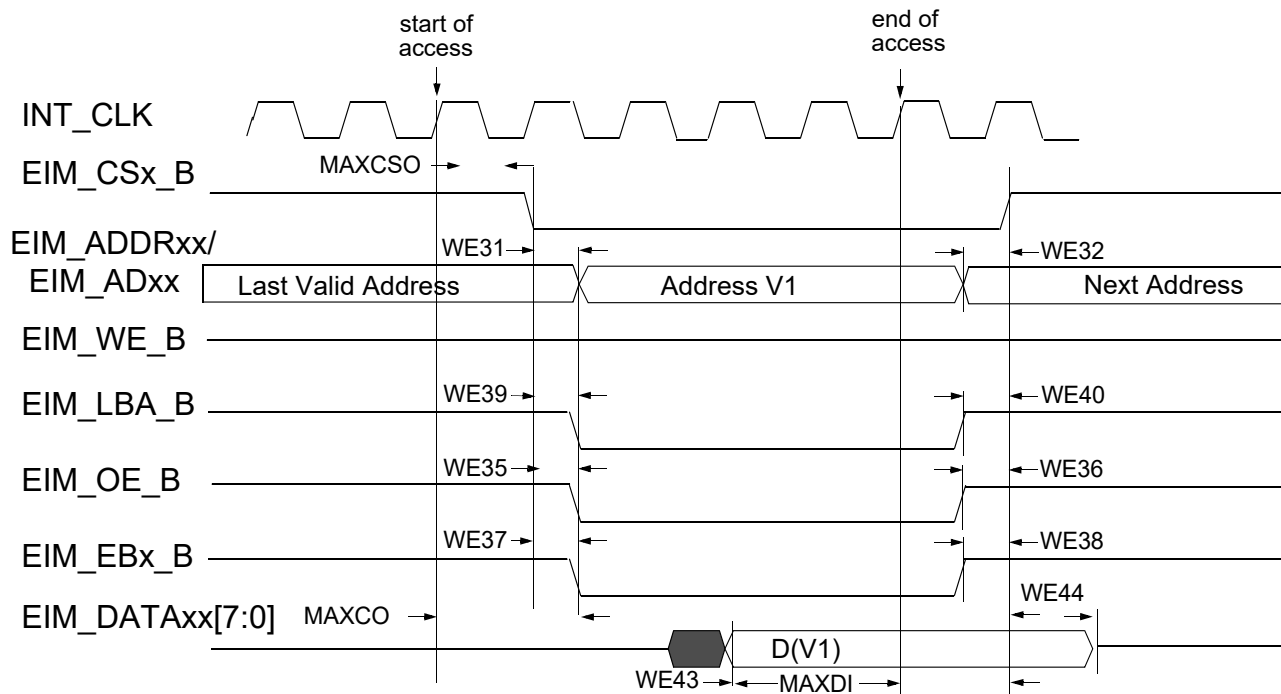

Figure 17. Asynchronous Memory Read Access (RWSC = 5)
Figure 17 through Figure 21, and Table 39 help you determine timing parameters relative to the chip select (CS) state for asynchronous and DTACK EIM accesses with corresponding EIM bit fields and the timing parameters mentioned above.
Asynchronous read & write access length in cycles may vary from what is shown in Figure 17 through Figure 20 as RWSC, OEN and CSN is configured differently. See the *i.MX 6Solo/6DualLite Reference Manual (IMX6SDLRM)* for the EIM programming model.